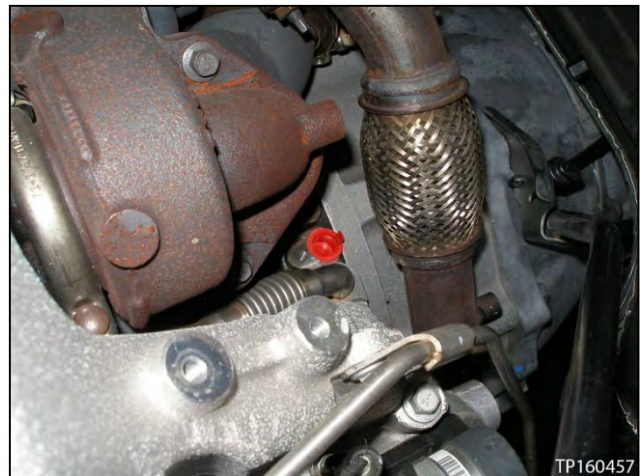
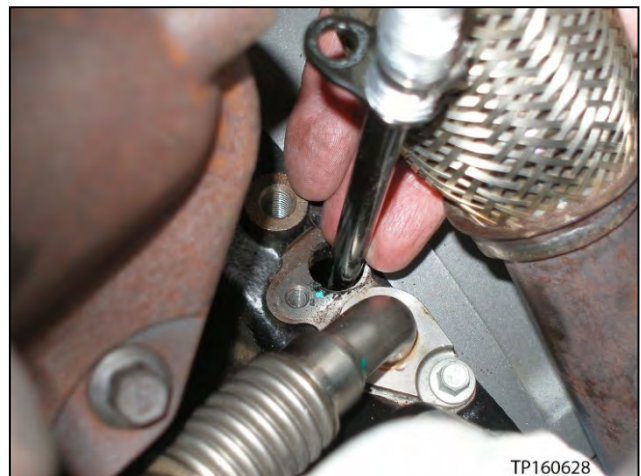
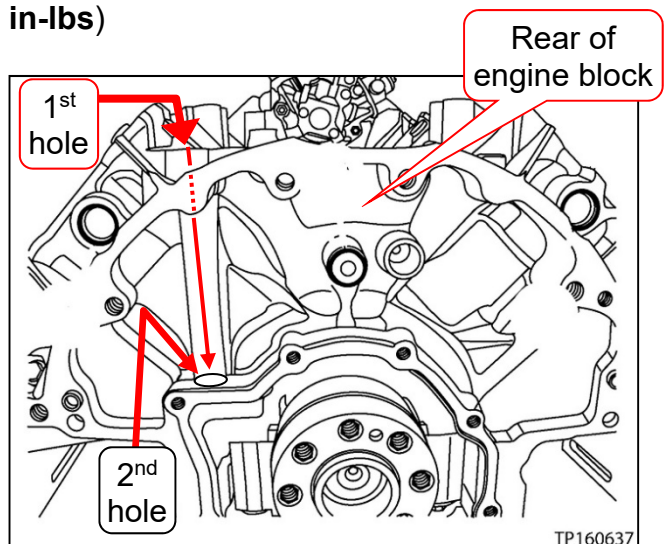

Figure 98
Figure 99
Figure 101
- a. Remove the plug (see Figure 98).
- d. Guide the oil dipstick tube further into the first hole at an angle, and then into the second engine block hole until fully seated (see Figure 98, Figure 99, and Figure 101).